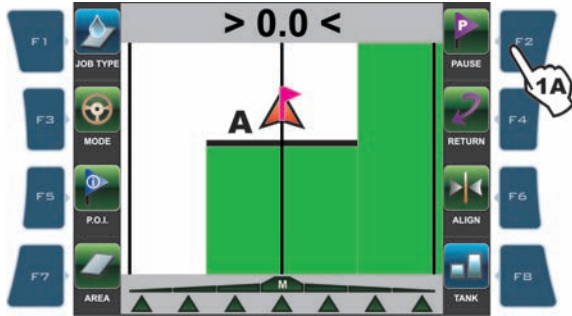
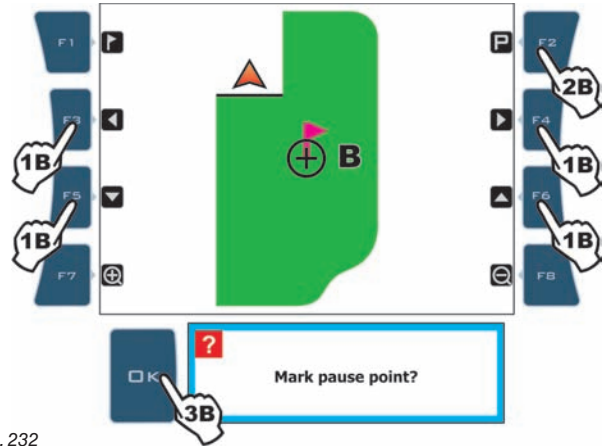

Fig. 231
Fig. 232
Stores the job breaking point "Pause" on the field marked with a flag  on the display. Flag can be seen on guidance screen (Fig. 231) and on field full zoom page (Fig. 232). "Pause" breaking point can be stored using the two procedures described below:
1a Press **F2** when you are in the position to be stored: flag will be positioned at that point (**A** in Fig. 231).
- 1b** Press keys **F3**, **F4**, **F5**, **F6** to shift position of cursor **B** (Fig. 232) on field.